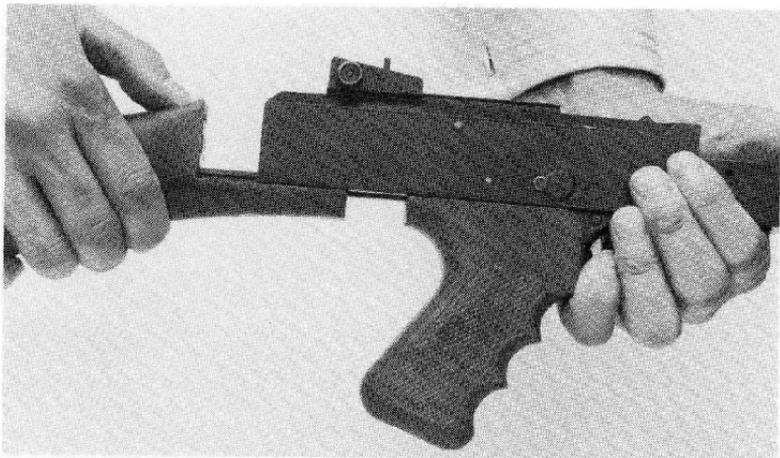

Figure 3
- on top of the stock near end of receiver with your thumb, and simultaneously pulling off the stock (figure 3).